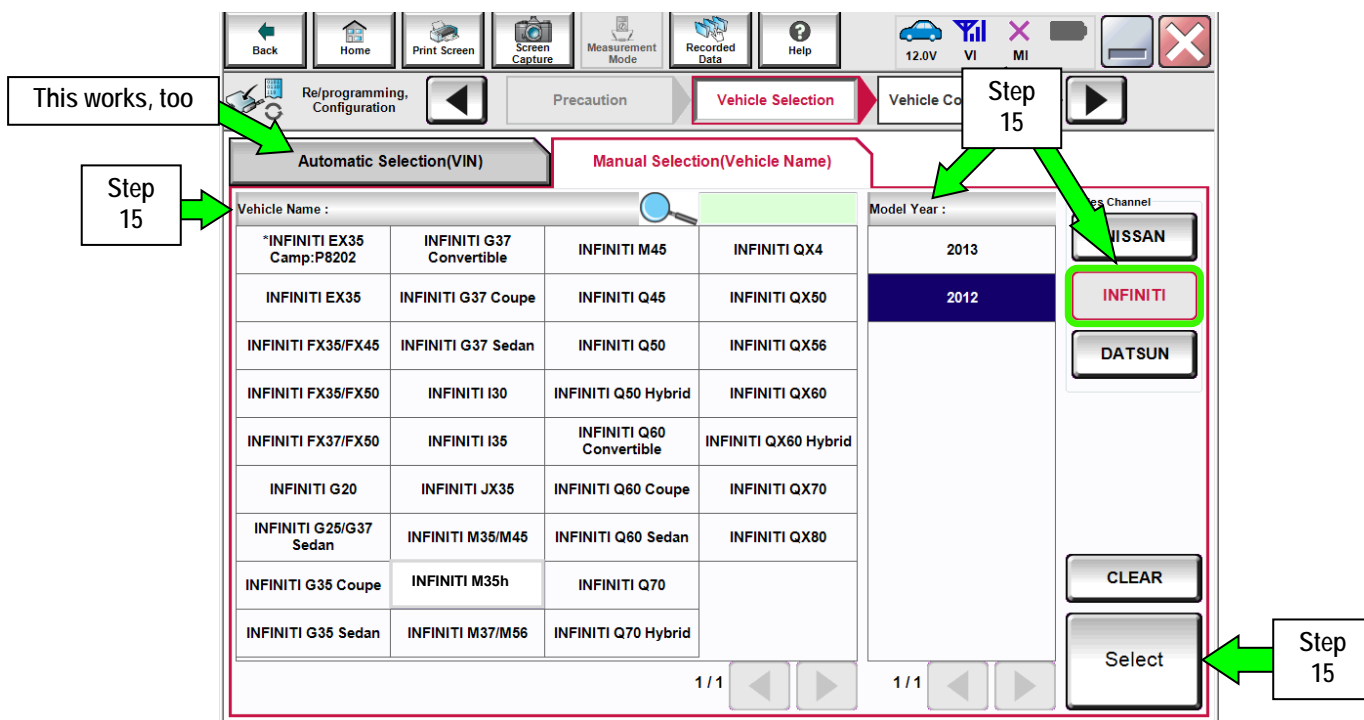

Figure 4a
- If the screen in Figure 4a does not display, skip to step 16.